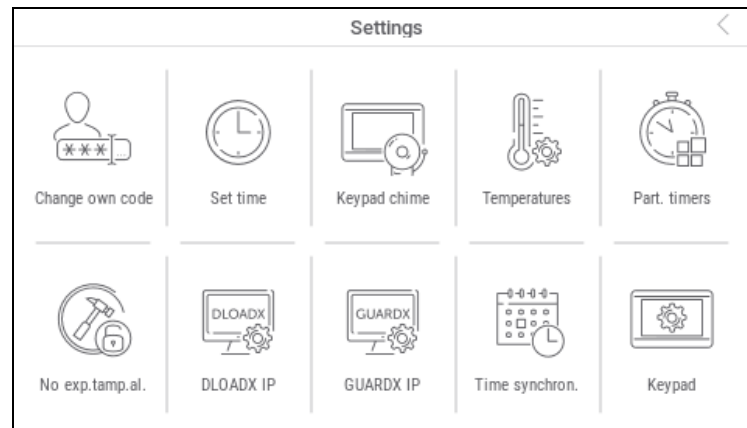

Fig. 25. "Settings" screen (example).
5. Tap the “Settings” function. The “Settings” screen will be displayed (Fig. 25).